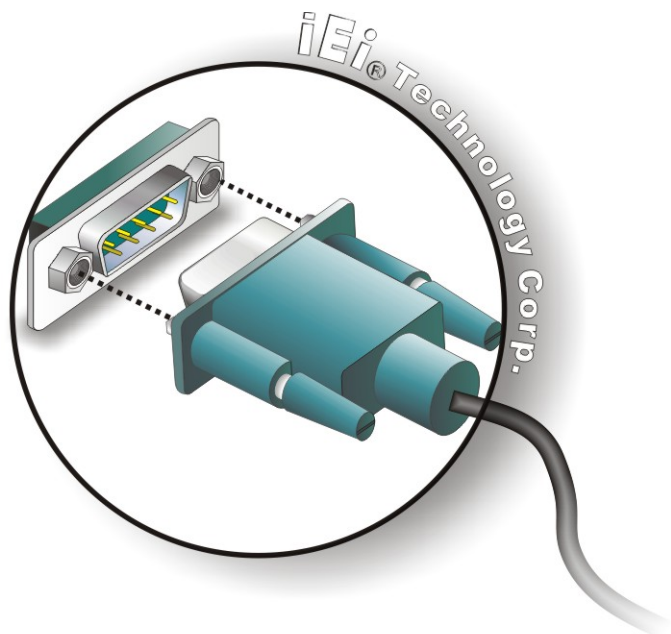

Figure 4-18: Serial Device Connector
Step 4: **Insert the serial connector.** Insert the DB-9 connector of a serial device into the DB-9 connector on the external peripheral interface. See Figure 4-18.